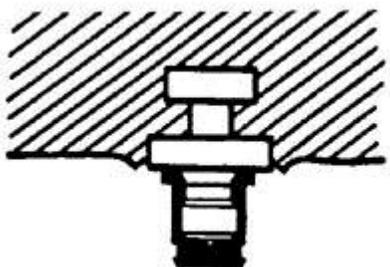

Fig 14
4. Substitute Model Females are placed over the Impression Males in the impression. Make sure the Substitute Female is fully seated (Fig 14).